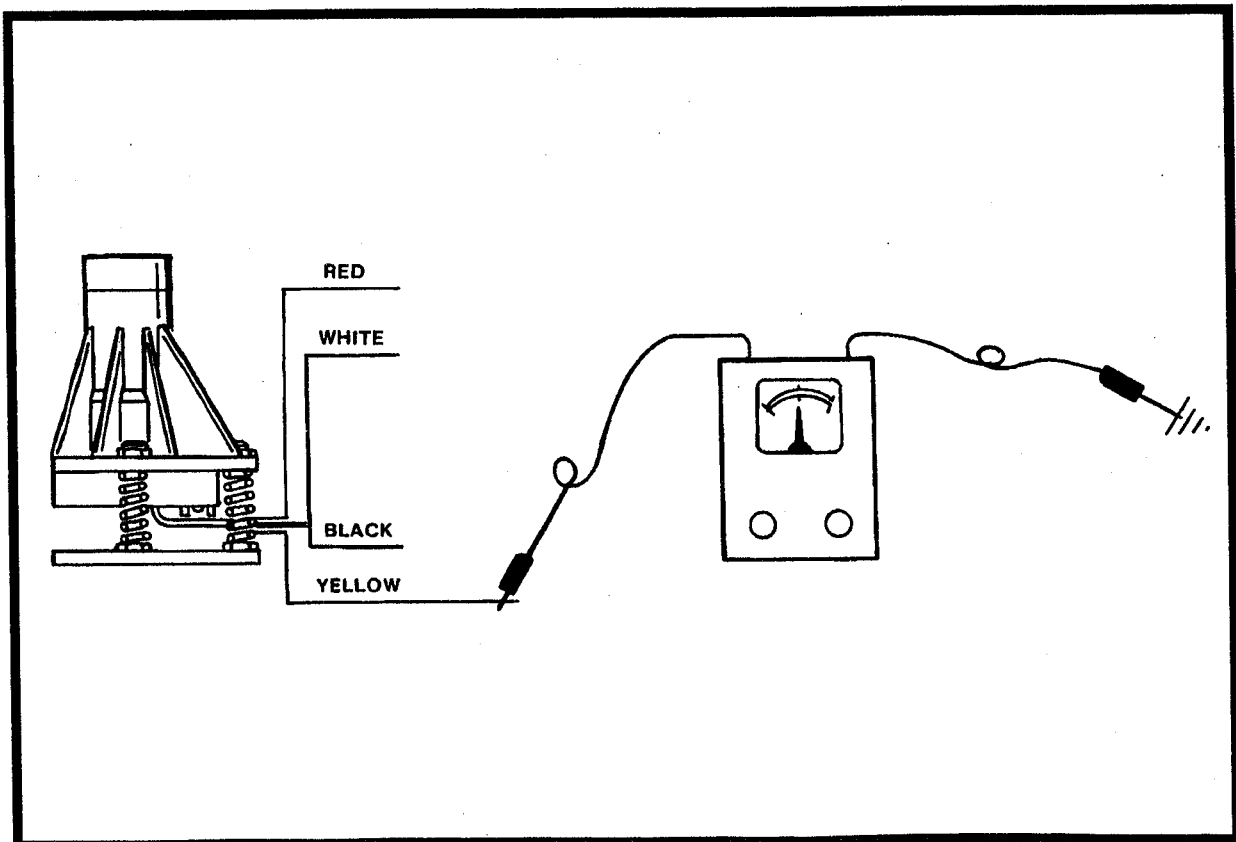

Figure 2-1. Tilt Alarm Switch Leveling.
- (2). Level the base of the indicator by tightening the three flange nuts through approximately one half of its spring travel. **DO NOT ADJUST THE 'X' NUT DURING THE REMAINDER OF THE PROCEDURE.**
- (3). With the electrical connections complete, slowly tighten one of the 'Y' nuts until the circuit is closed and the light on the platform control console illuminates.
- (4). Slowly back off the nut, counting the number of turns, until the circuit is again closed and the light again illuminates.
- (5). Divide the number of turns determined in step (4) in half. Tighten the nut this many turns. The line determined by this nut and the 'X' nut is now parallel to the ground.
- (6). Repeat steps (3) through (5) for the remaining 'Y' nut. The switch is now level.
- (7). Individually push down on one corner at a time; there should be enough travel to cause the switch to trip. If the switch does not trip in all three tests, the flange nuts have been tightened too far. Loosen the 'X' nut and repeat steps (3) through (7).
b. Voltmeter Version. (See Figure 2-1)
- (1). Park machine on a flat, level surface. Ensure machine is level and tires are filled to rated pressure.
- (2). If engine is not running, turn ignition switch to ON position.
- (3). Connect black lead of voltmeter to ground and red lead to yellow wire protruding from potting on bottom of sensor.
- (4). Adjust the leveling nuts to obtain the highest possible voltage reading.
- (5). Check voltage at trip point in all four directions. If the voltage reading is not symmetrical, repeat (4) above.